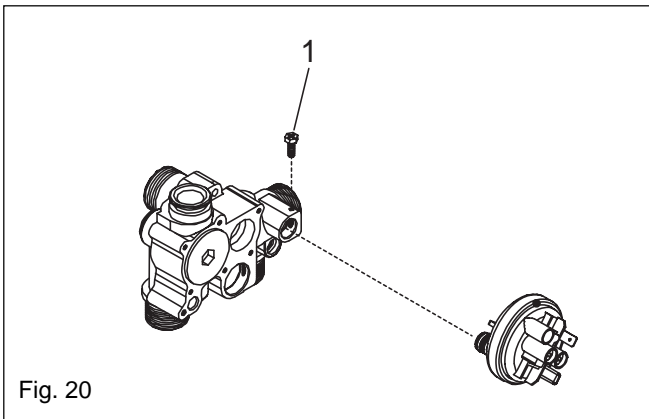

Fig. 20
**6.8 WATER PRESSURE SWITCH (see fig. 20)**